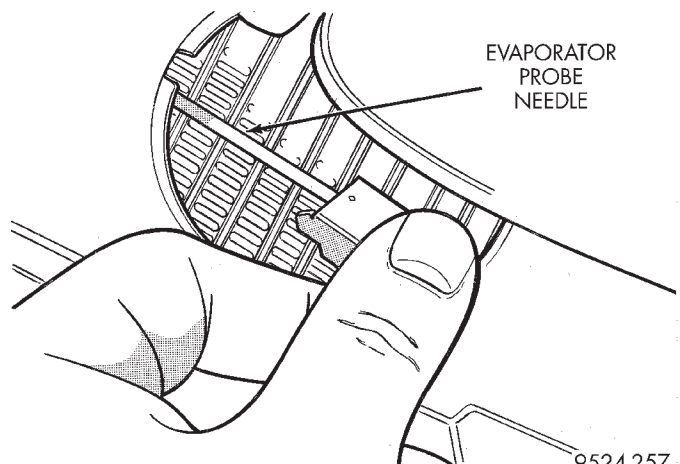

Fig. 43 Remove Probe
(5) Pull probe out of evaporator core (Fig. 43). This plate must be pushed inside the A/C unit and oriented in such a way that the plate can be removed.